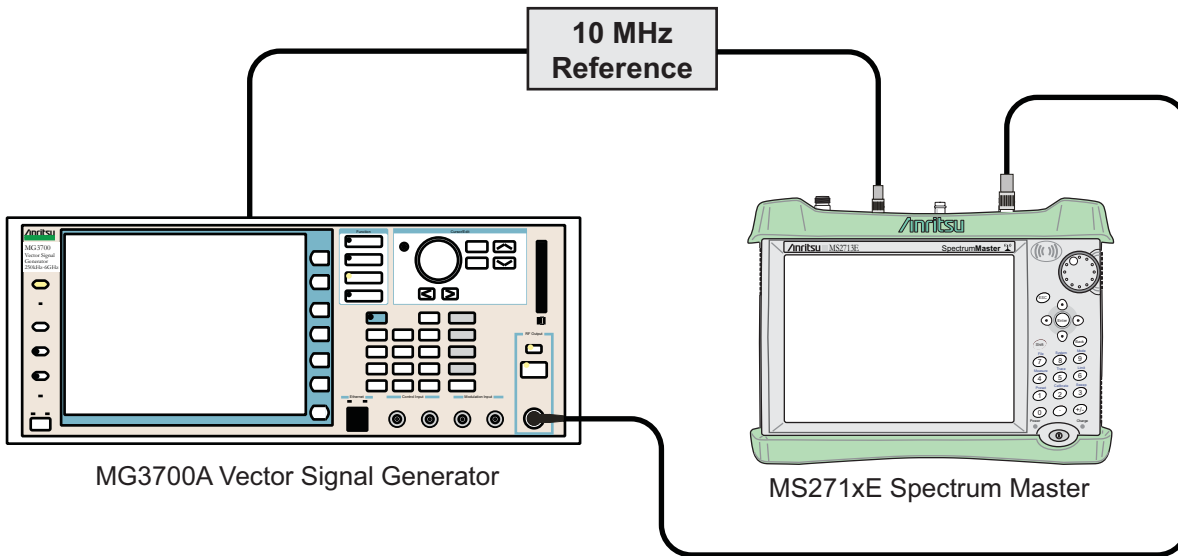

Figure 4-19. Mobile WiMAX Residual EVM and Frequency Error Test Setup
1. Connect the equipment as shown in Figure 4-19.